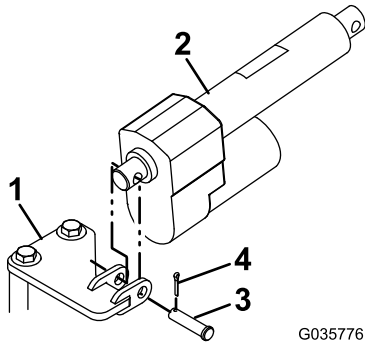

Figure 8
- Install the actuator on the front, deck-lift bracket using the clevis pin and hairpin cotter (Figure 8).